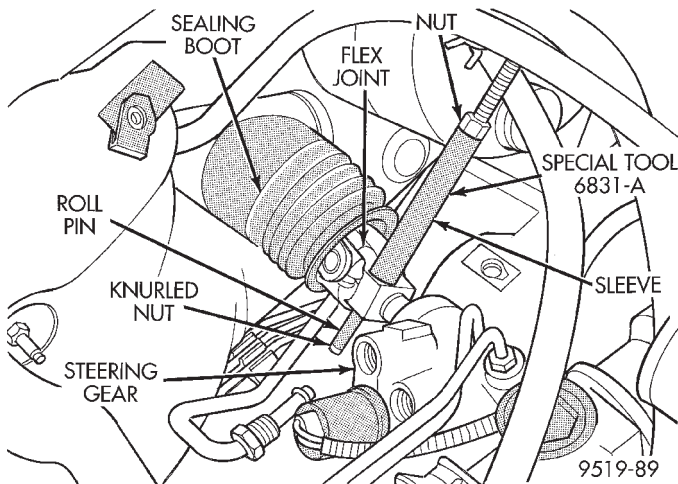

Fig. 16 Steering Coupler Roll Pin Installation
(2) Using roll pin installer, Special Tool 6831A, install the roll pin in the flex joint of the intermediate shaft (Fig. 16). Roll pin is installed in coupler using the following procedure. Remove knurled nut from small end of removal tool. Insert small end of removal tool through center of roll pin and then install and hand tighten knurled nut. Position sleeve of removal tool on flex joint as shown in (Fig. 16). Holding threaded shaft of tool from turning tighten nut (Fig. 16) pulling roll pin into flex joint. Roll pin must be equally spaced in flex joint.
(3) Slide steering gear and intermediate shaft back into dash panel sealing boot (Fig. 16). Align the steering gear mounting holes with its mounting holes in crossmember.